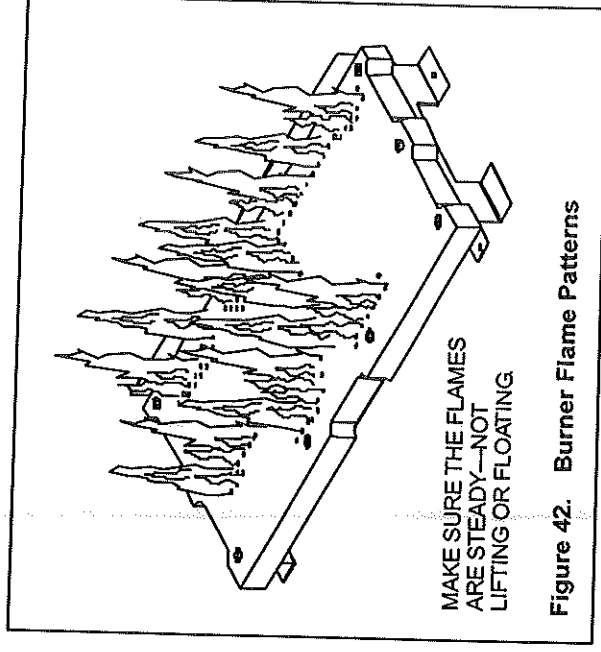

Figure 42. Burner Flame Patterns
**Task:** Make a visual check of your fireplace's flame patterns. Make sure the flames are steady - not lifting or floating. See Figure 33. The flame sensor (IPI) or thermopile/thermocouple (standing pilot) tips should be covered with flame. See Figure 42.